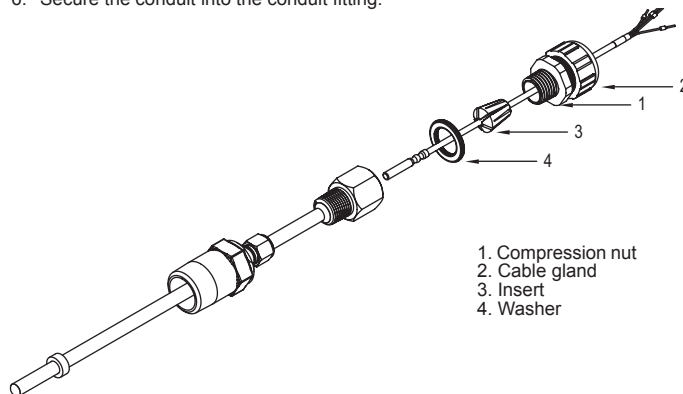

Figure 14: Thermowell assembly with CND gland
Cable Gland (PG 16) Thermowell (refer to Figure 14 below)
1. Remove compression nut (1) by unscrewing from cable gland (2).
2. Remove insert (3) from the cable gland (2).
3. Route the RTD through compression nut (1) and cable gland (2), then into the insert (3) and washer (4).
Note: Ensure insert (3) is aligned correctly, as shown in Figure 14 below.
6. Screw the cable gland (2) into the thermowell.
7. Tighten the compression nut (1) onto the cable gland (2) to 30 in/lbs.